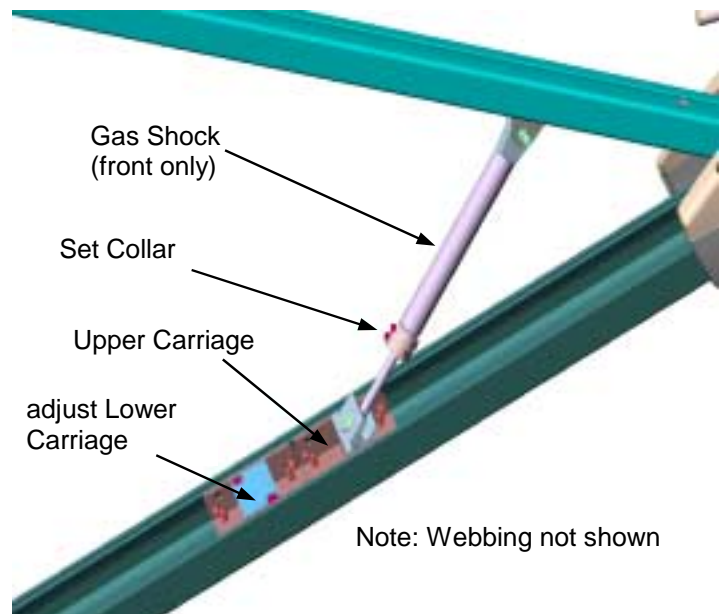

figure 12
(2) If the motor runs in the reverse direction, it will be necessary to push the switch out of the Power Control Switch panel, flip it upside down and reinstall.
(3) The Power Control Switch panel may now be mounted in place.
C. Have available the 9/64" hex wrench provided. **Retract the awning until the roller assembly makes one complete turn.** While holding on to the Lower Carriage on the motorized arm assembly, cut and remove the cable tie attaching the Upper Carriage and Lower Carriage together. Move the Lower Carriage up until it touches the Upper Carriage (see figure 12). Tighten the clamping screws on the Lower Carriage with the 9/64 hex wrench. Repeat this procedure on the non-motorized arm assembly.
E. Move the Set Collar on the motorized arm assembly up until it touches the base of the gas shock and tighten the clamping screws with the 9/64" hex wrench. (see **figure 12**).